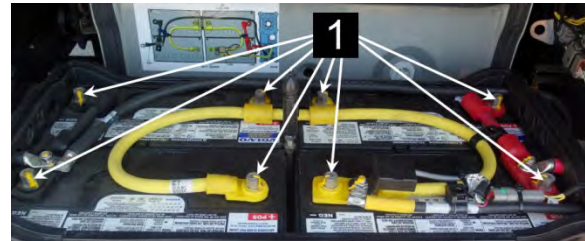

FIGURE 54: INSTALL THE BATTERY CABLE LUGS
5. Connect the battery cables. Tighten the cable terminal (item 1, FIGURE 54) nuts to the following torque: